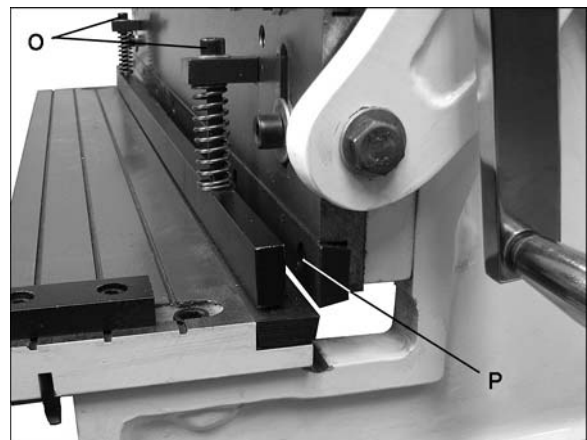

Figure 11
1. Remove *hold-down* by loosening screws (O, Figure 11), using 6mm hex key.
3. Remove seven screws (P, Figure 11) and carefully remove blade.
4. Rotate or replace blade and re-install screws (P).
5. Reinstall hold-down. When blade is in highest position, the gap between the hold-down and the table should be within 1/4". Adjust to this position by turning the two screws (O, Figure 11) as needed. When the blade starts its downward travel, the hold-down should immediately hold workpiece in place.